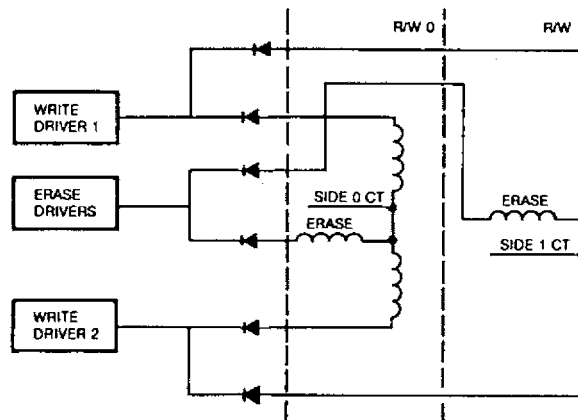

FIGURE 31. READ/WRITE HEADS
1.5.1 Each of the read/write heads contain two coils. Two read/write coils are wound on a single core, center tapped and one erase coil is wound on a yoke that spans the track being written. The read/write and erase coils are connected as shown in Figure 31.
1.7.2 Since a pulse occurs at least once every $4\mu\text{s}$ and when data bits are present once every $2\mu\text{s}$, the frequency of the read data varies. The read signal amplitude decreases as the frequency increases. Note the signals on Figure 31. The differential amplifier will amplify the read signals to even levels and make square waves out of the read signals (sine waves).